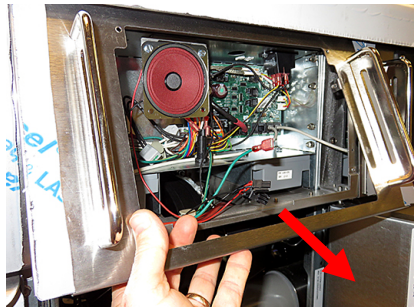

Figure 11
13. Remove by tilting the bezel up from the bottom and lower towards the front of the fryer (see Figure 11).